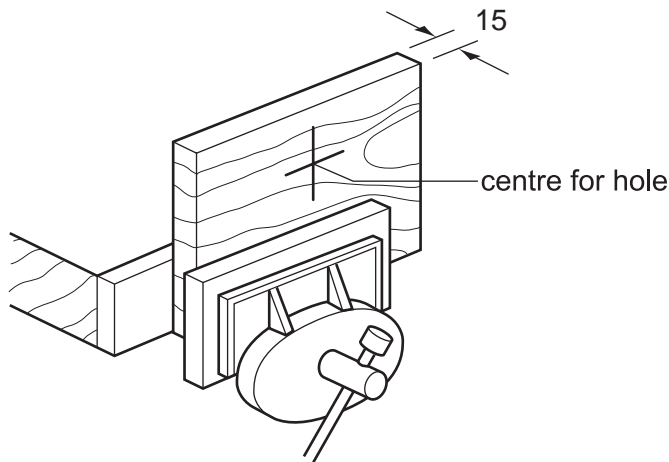

Fig. 3
- 5 Fig. 3 shows a hardwood block and a centre marked where a hole will be bored using a brace and a bit.